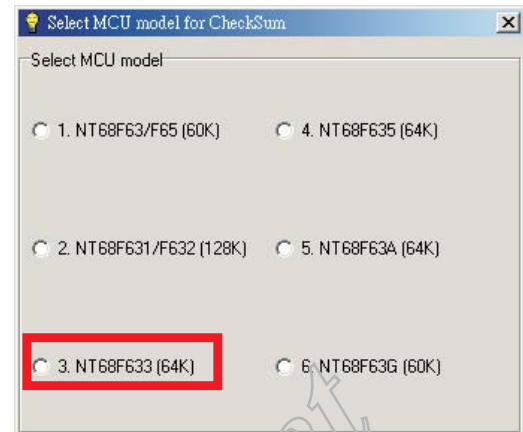

Fig. 10
3. From the menu that appears, choose the "NT68F633(64K)" as shown in Fig. 10.